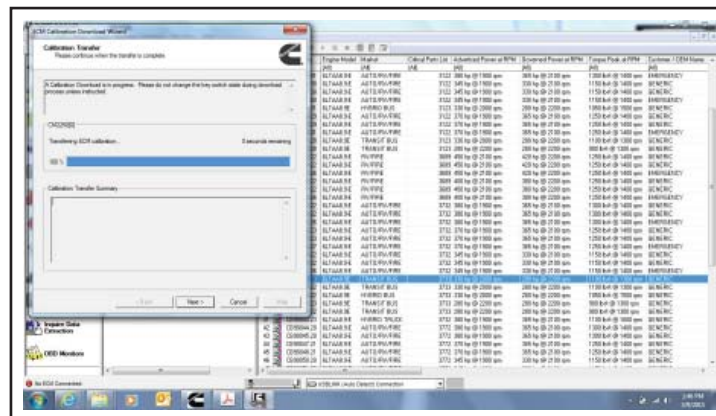

Figure 22 - Calibration Progress
- 1.22. Calibration in progress and will indicate when ECM transfer is complete. Wait while transfer completes See Figure 22.